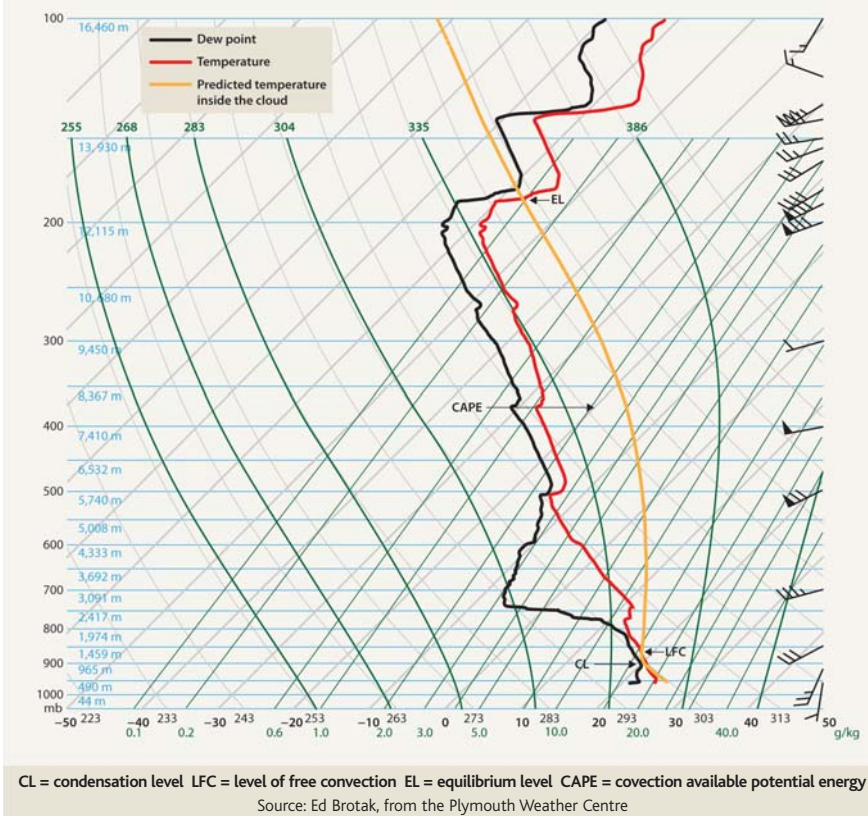

Figure 1
For an example, Figure 1 is the 0000 GMT 23 May 2011 sounding for Springfield (Missouri, U.S.) Municipal Airport. This sounding represents the atmospheric conditions that produced the thunderstorm that spawned the tornado that devastated nearby Joplin, Missouri. The red line is the actual temperature trace, and the black line is the dew point from the surface to 16,460 m (54,000 ft). From the surface temperature and dew point, we can calculate the *condensation level* (CL). For this calculation, we simulate the lifting of this surface air by using the dry adiabatic lapse rate to determine the height at which the air would be cooled sufficiently that its temperature equals the dew point. In this case, the condensation level is 840 m (2,750 ft). The condensation level typically marks the base of the cloud. Below this level, where the parcel of air is cooler, energy or lift must be provided for condensation to occur. The energy required is called *convective inhibition* (CINH). If this value is large (e.g., 200 or more) or there is nothing to help the parcel rise, there will be no convection. In this example, the CINH is a minimal value of 3.